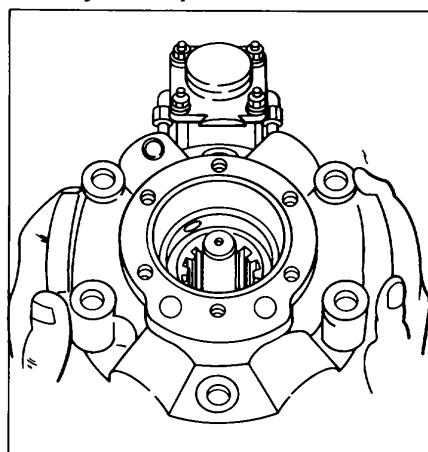

Figure 112.
Remove hex bolts (40 & 22) (2 short, 4 long) and lock washers (4). Lift off the pump cover (9). If the cover should stick to the housing, jar loose with a soft faced hammer. Remove O-ring (38) and cover gasket (39) from pump cover. See Fig. 112.
.Figure 112.
14. Remove two hex bolts (17) two tab lock washers (16) and remove one clip (15), one bearing plate (14), and two spacers (13). See Fig 112. Inspect bearing plate (14). If wear is evident or there are scratches in the bearing surface, discard bearing plate and replace. If bearing plate (14) must be discarded, disassemble other return plate spacer and discard second bearing plate. If bearing plate (14) is reusable, do not disassemble second return plate spacer, assembly.